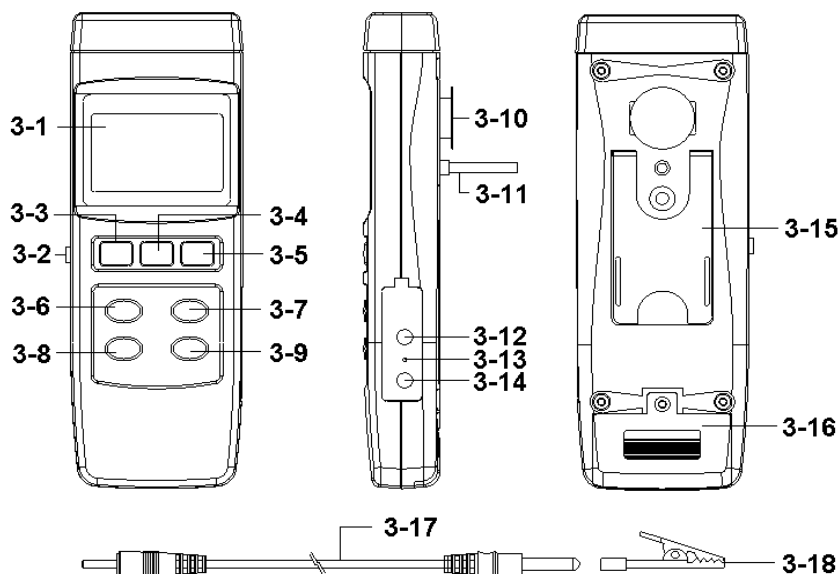

Fig. 1
1. Press the " POWER / Backlight button " (3-3 , Fig. 1) more than 2 seconds to Turn ON the meter.
2. Press the " POWER / Backlight button " (3-3 , Fig. 1) more than 2 seconds to Turn OFF the meter.
- 1 Use the accessories EARTH wire (3-17 , Fig.1) to connect build EARTH from the meter " GROUND terminal " (3-14 , Fig.1).
- 2 Operator is finish grounding to the build EARTH for Anti-static wrist strap . and finger has to press on the " GROUND point " (3-2 , Fig.1).
Before you measure STATIC Voltage. If the meter has a few reading on the screen .You can press the " ZERO button " (3-6 , Fig. 1) once to clear the reading. Or press the " ZERO button " (3-6 , Fig.1) more than once.
When measurement the STATIC Voltage . use the " Magnetic SPACER " (3-11 , Fig.1) to magnetically back of the meter . just below the " SENSE disk " (3-10 , Fig.1). to make sure between " SENSE disk " (3-10 , Fig.1) and test distance is 1 inch (25.4 mm \pm 0.5 mm) .
1. Press the " POWER / Backlight button " (3-3 , Fig.1) more than 2 seconds to Turn ON the meter.
3. Just point the " SENSE disk " (3-10 , Fig.1) toward the object . without touching the disk .
2. If you have another voltage value to limit . you can press the " ALARM button " (3-8 , Fig.1) more than 2 seconds to Turn ON the setting function. and ALARM symbol will highlighting . The first digit of alarm value will flash . Now you can press the " ▲ button " (3-7 , Fig.1) to increase the value . or press the " ▼ button " (3-9 , Fig.1) to decrease the value .
3. When you finish the first figures . you can press the " ALARM button " (3-8 , Fig.1) to setting next figures .
4. When you finish your limit value . you can press the " ALARM " button " (3-8 , Fig.1) more than 2 seconds to save the setting value and return to measure mode .
During the measurement , press the " HOLD Button " (3-4 , Fig.1) once will hold the measured value & the LCD will display a " HOLD " symbol . Press the " HOLD Button " (3-4 , Fig.1) once again will release the data hold function .
- 1 The data record function records the maximum and minimum readings . Press the " REC Button " (3-5 , Fig. 1) once to start the Data Record function and there will be a " REC " symbol on the display .
- a) Press the " REC Button " (3-5 , Fig.1) once , the " REC MAX " symbol appear on the display . and LCD will showing maximum value .
- b) Press the " REC Button " (3-5 , Fig.1) again, the " REC MIN " symbol along with the minimum value will appear on the display. and LCD will showing minimum value .
- c) Press the " REC Button " (3-5 , Fig.1) again, the " MIN " symbol will disappear only " REC " symbol on the display. and LCD will showing current reading .
- 3 To exit the memory record function , just press the " REC button " (3-5 , Fig.1) for 2 seconds at least. The display will revert to the current reading.
- 2 If the instrument is working. Press the " POWER / Backlight button " (3-3 , Fig.1) once , can turn ON the Backlight.
- 3 Press the " POWER / Backlight button " (3-3 , Fig.1) again will turn OFF the Backlight.
CPU system is hold (for example, the key button can not be operated...) . Then make the system RESET will fix the problem . The system RESET procedures will be either following method : During the power on, use a pin to press the " RESET button " (3-13 , Fig.1) once a while will reset the circuit system .
The instrument has RS232 PC serial interface via a 3.5 mm terminal (3-12, Fig. 1).
- 2) Open the screw of " Battery Cover " (3-16 , Fig.1) by screwdriver, then move the battery.